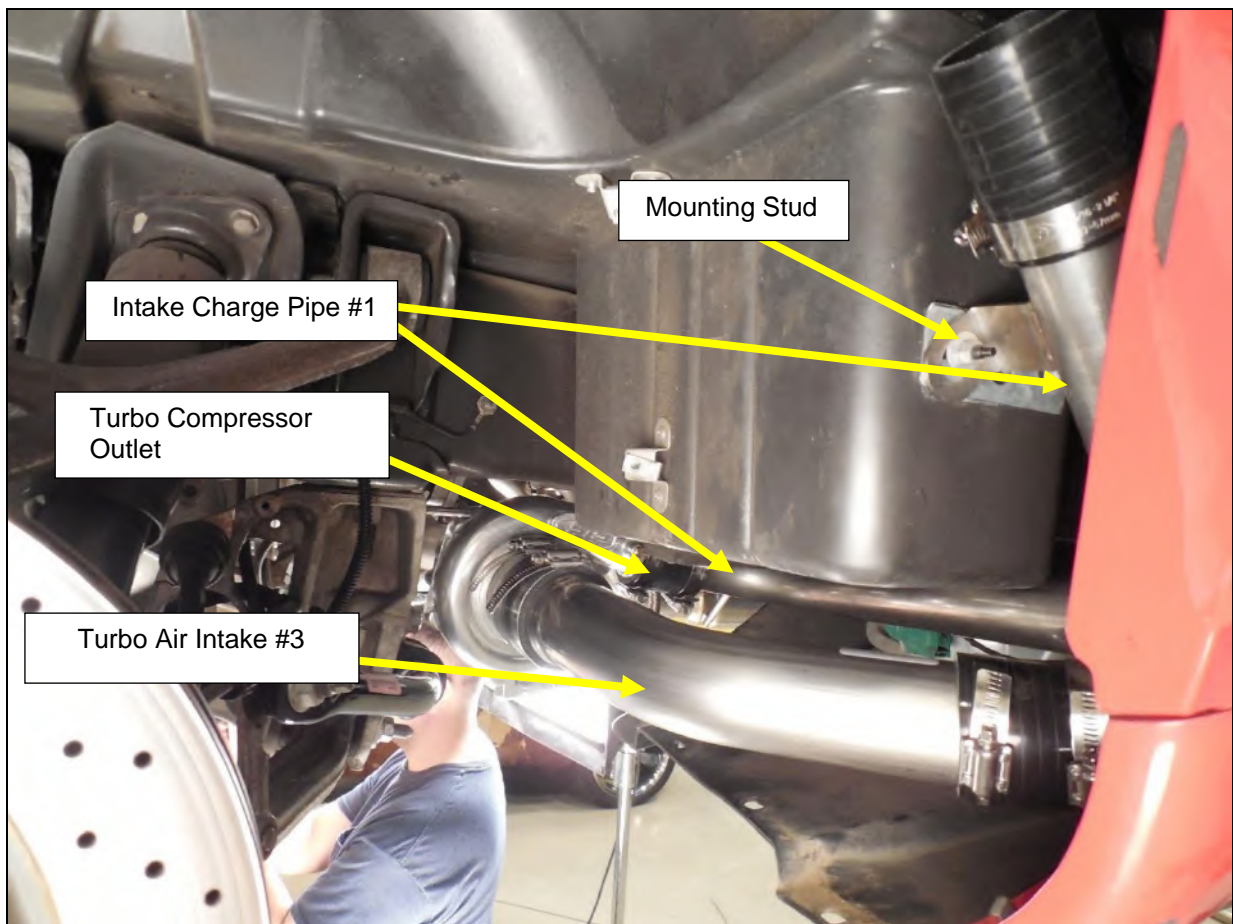

Figure 62
1. Install the left (driver's side) and right (passenger's side) intake charge pipe #1 (visual reference #7 and #17) from the turbo compressor outlet to the mounting stud for the inner fender bracket. Install the remaining 6mm flange nut hand tight for adjustment later (**Figure 62**).